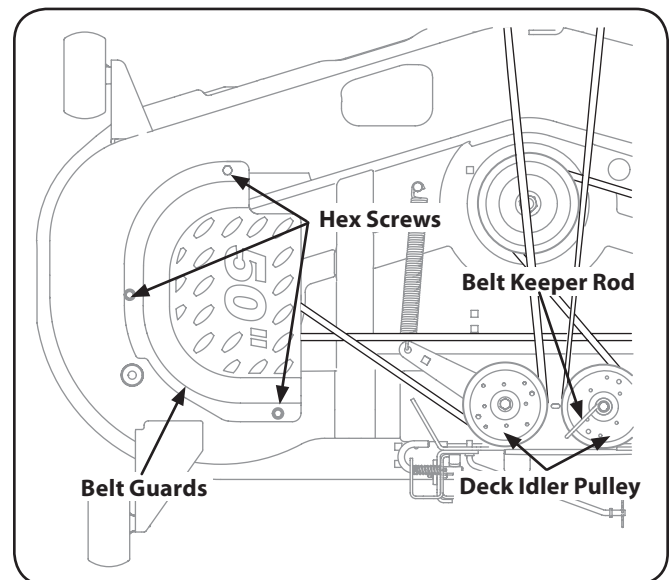

Figure 7-7
2. Remove the belt guards by removing the hex screws that fasten them to the deck. See Fig. 7-7.
3. Loosen, but do not remove the belt keeper rod on the pulley located near the back of the deck. See Fig. 7-7